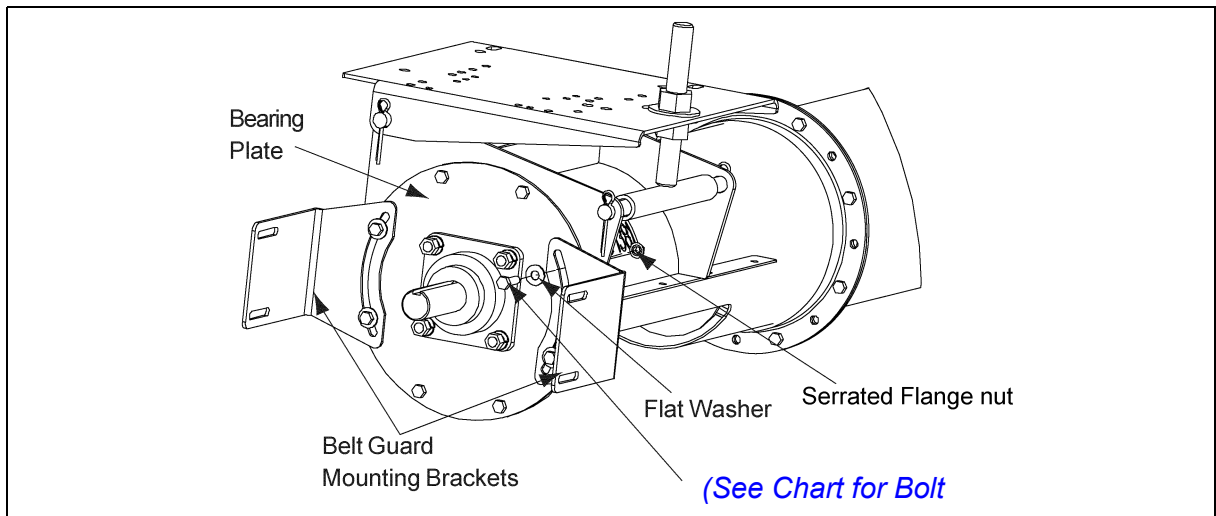

Figure 4G
- C. Only Secure with UPPER and LOWER four (4) bolts (*See Figure 4G*). The other four (4) bolts will be installed later with the Belt Guard Mounting Brackets. (*See Chart for Bolt Sizes*).
(See Chart for Bolt Sizes), (See Figure 4G).